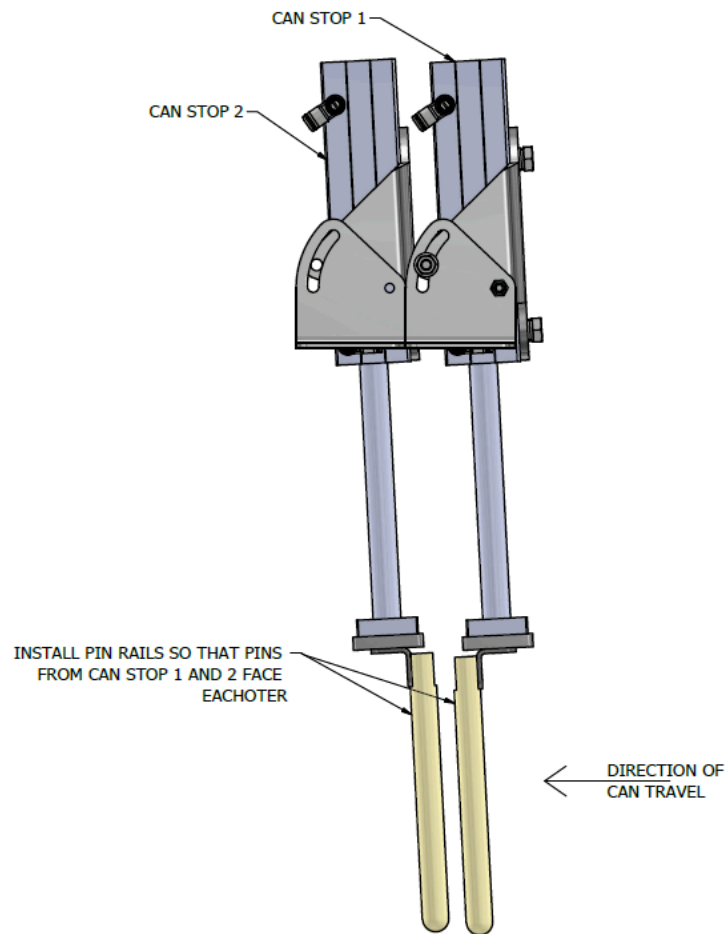

Fig. 37: Can Stop Pins Facing Correct Direction
- a. Ensure the pins face the correct direction as shown in Fig. 37.